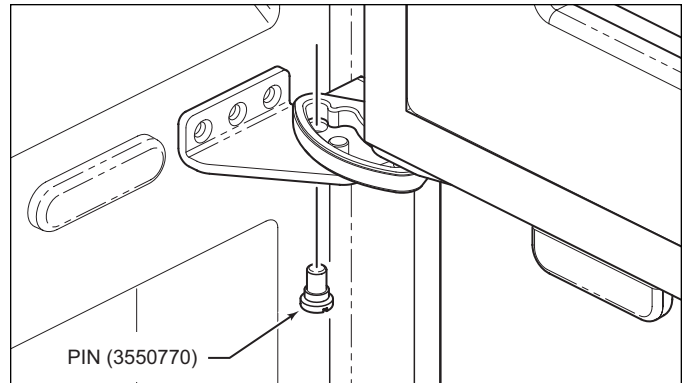

Figure 2-13. 90° Stop Pin (611G, 650G)
- b. Insert door stop pin up into threaded hole in lower cabinet hinge and tighten (See Figure 2-13).